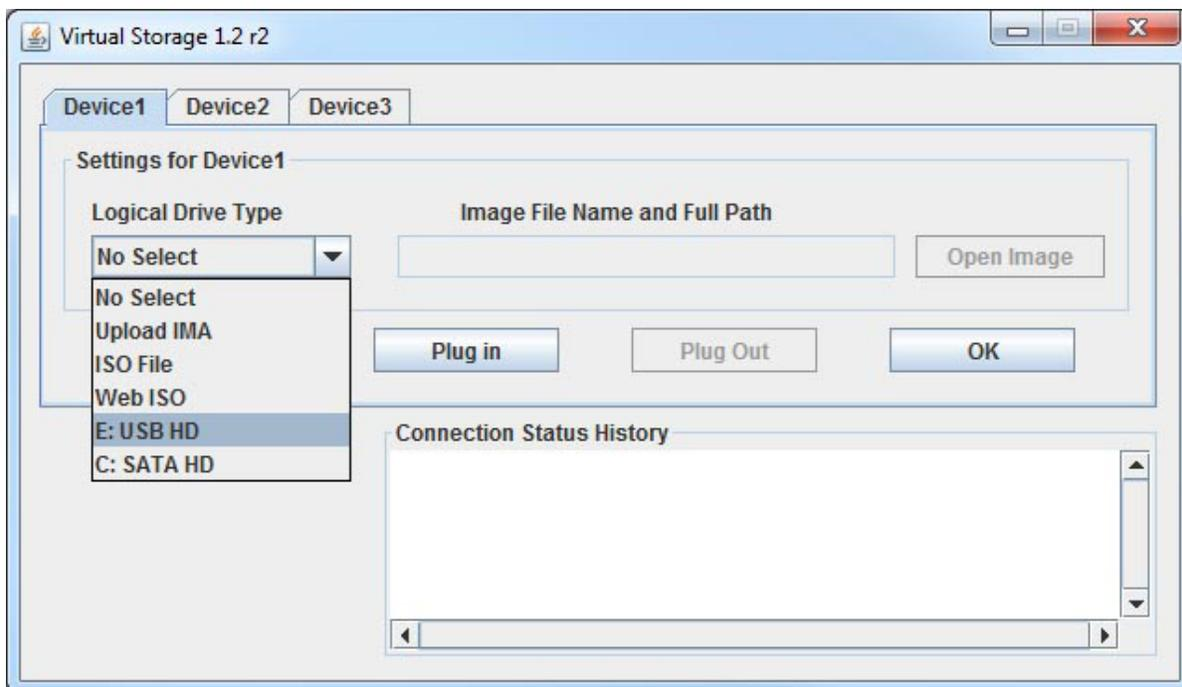

Figure A-8. Selecting a USB Flash Drive
6. If you wish instead to download the BIOS update from a USB Flash drive, then insert the flash drive into your system and select it from the Logical Drive Type menu (Figure A-8).